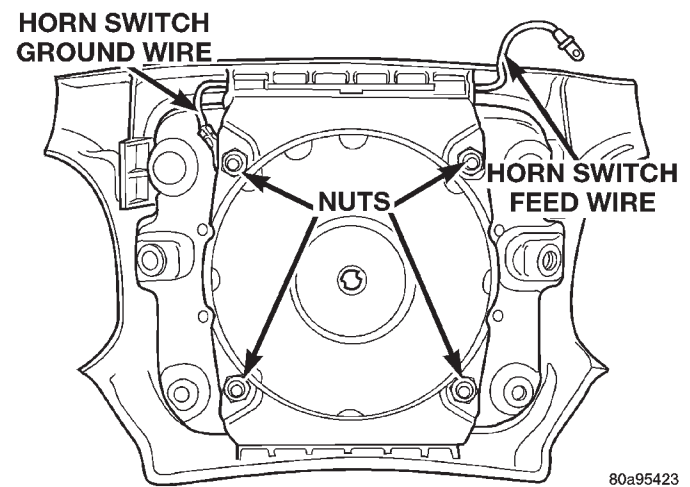

Fig. 8 Airbag Trim Cover Retainer Nuts Remove/Install
(1) Disconnect and isolate the battery negative cable. If the airbag module has not been deployed, wait two minutes for the system capacitor to discharge before further service.
(2) Remove the driver side airbag module as described in this group.
(3) Remove the four nuts that secure the upper and lower trim cover retainers to the studs on the airbag housing (Fig. 8).